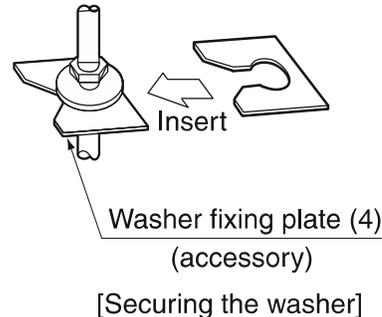

Fig. 11
The washer fixing plate (4) will prevent the washer from falling. **(Refer to Fig.11)**